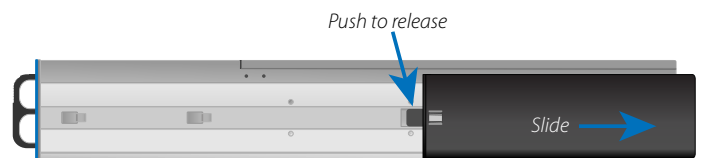

Figure 2.1c
4. Once the securing screws have been removed, remove the rail arm from the Jupiter unit by sliding it toward the rear of the unit as seen in **Figure 2.1c**. When the rail arm stops, push the release tab while continuing to slide the rail arm off. After removing the rails, set them aside taking note of the side from which they were removed.